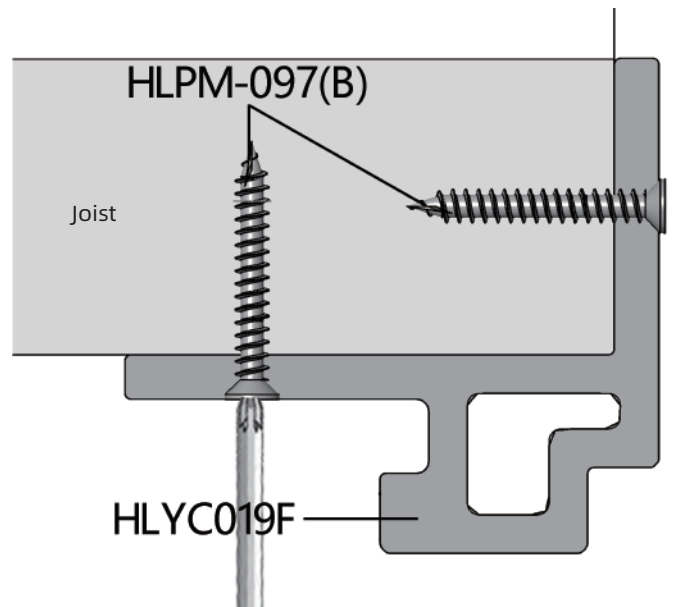

Fig20
1. install the HLYC-019F. as shown in Figure 20: